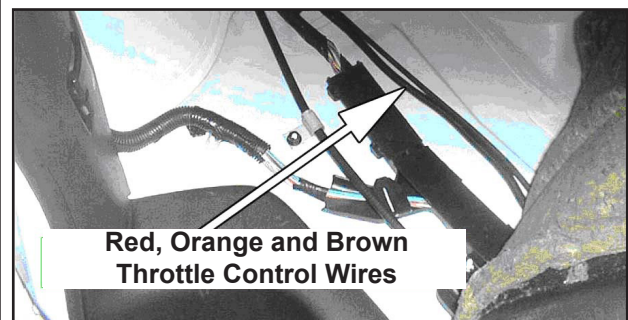

Figure 46. Route Throttle Cable to Controller
4. Route the 3 Speed Throttle Cable under the driver's side floor mat to the controller (refer to Figure 46). Tie wrap or tape to the transmission shift cable, routing it up, under the dash.